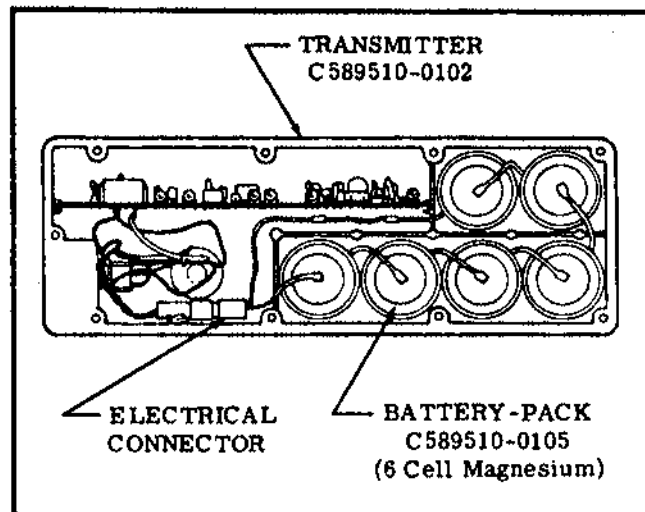

Figure 16-14. Magnesium 6 Cell Battery-Pack Installation
16-93. REMOVAL AND INSTALLATION OF MAGNESIUM SIX (6) CELL BATTERY-PACK. (Refer to figure 16-14.)